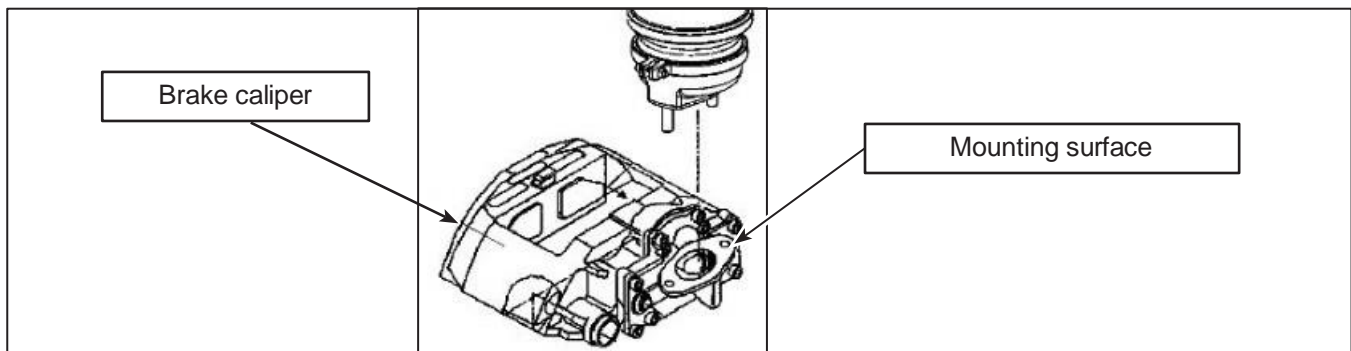

Figure 3 - Surface Mount on the Brake Caliper
- 2.7. On the brake caliper lever, clean any dirt or dust from the brake chamber mounting surface (Figure 3).
- 2.9. On the concave part of the mounting surface for the brake chamber, apply Renolit HLT2 white grease or an equivalent (Figure 3). **Note: do not use grease containing molybdenum disulfide.**